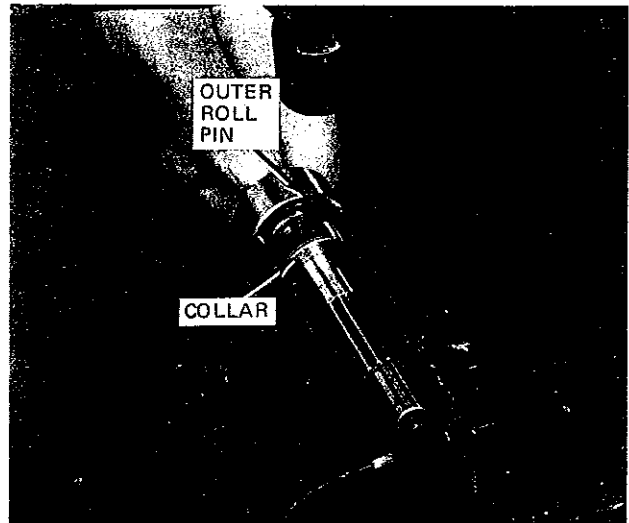

Figure 28. Tap roll pin into collar and shaft.
- Q. Place the propeller shaft collar in a vise, slide in the propeller shaft, install the outer roll pin with a hammer (Figure 28).